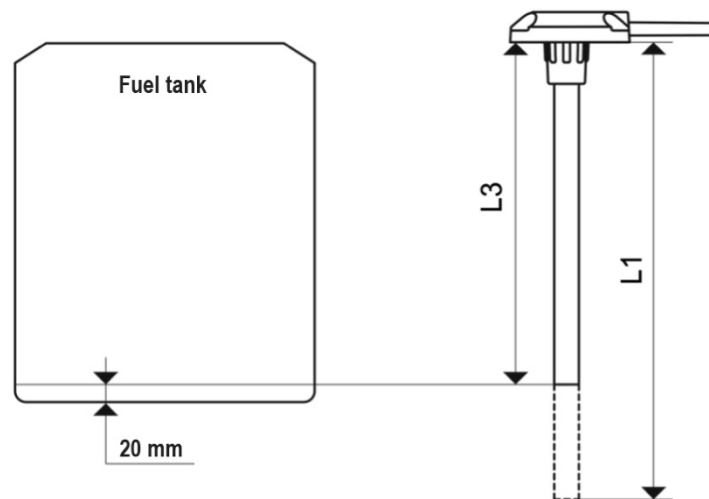

Fig. 5 – Cutting the measuring part of the device
- 3) Cut off length **L3** of the device with a hacksaw so that the cut line is perpendicular to the longitudinal axis of the device (Fig. 5).